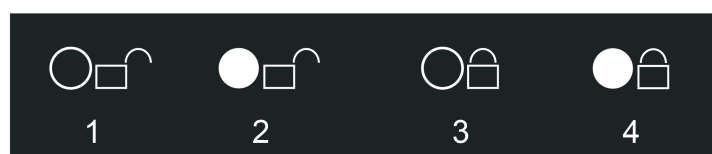

Figure 42: Status icons for the KNX function "Restraint"
Similarly to the status text, a symbol (C) is displayed in the lower display area. The displayed icon can be defined in the configuration software separately for each switching state. An icon selection is provided for this purpose (figure 42). The assignment of the icons to the four states is optional. This means that inverted switching states can also be represented.